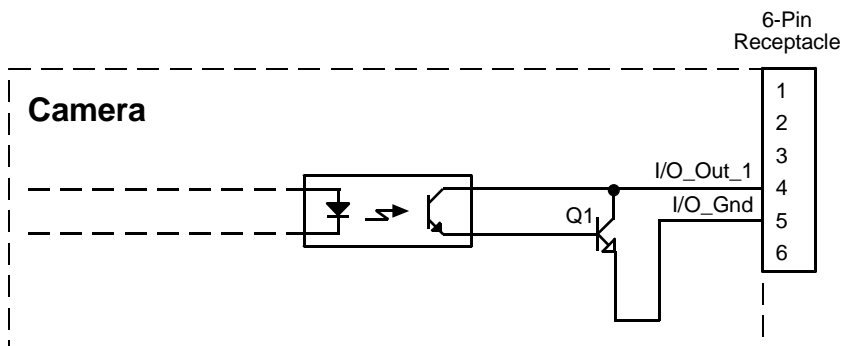

Fig. 47: Output Line Schematic (Simplified)
- A logical zero on Out_1_Ctrl results in a non-conducting Q1 transistor in the output circuit (see Figure 47).